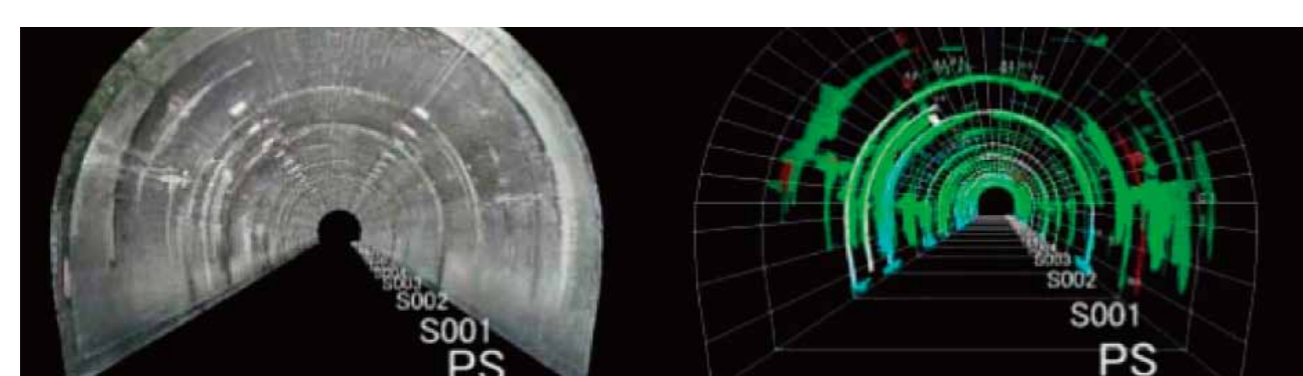

Fig.1 Damage map
- High-precision topographical surveys <Fig.1>